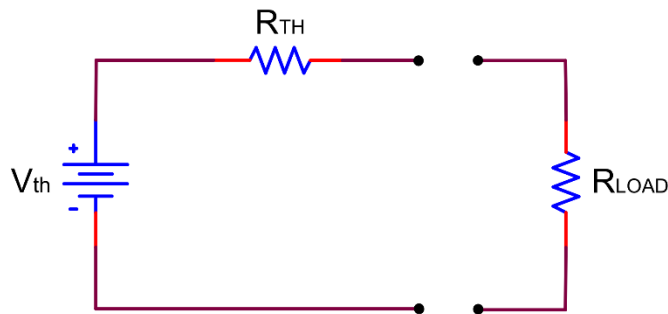
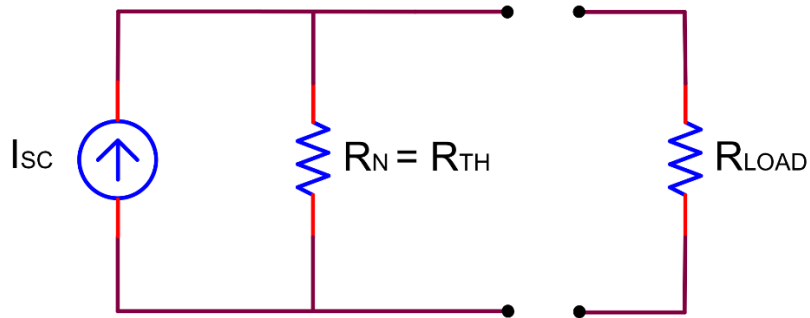

Figure 6.1
Figure 6.2
- Draw the Thevenin equivalent circuit by placing the load resistor across the open-loop terminal (Figure 6.1).
The current source is denoted by I_{sc} (short circuit current), and the resistor by R_N (Norton resistor). The value of R_N is the same as R_{TH} . The objective is to evaluate I_{sc} and R_N . The simplest way is to convert the voltage source of Figure 6.1 to the current source of Figure 6.2. This indicates:
- d. Draw the Norton equivalent circuit by placing the load across the open-loop terminals (Figure 6.2).